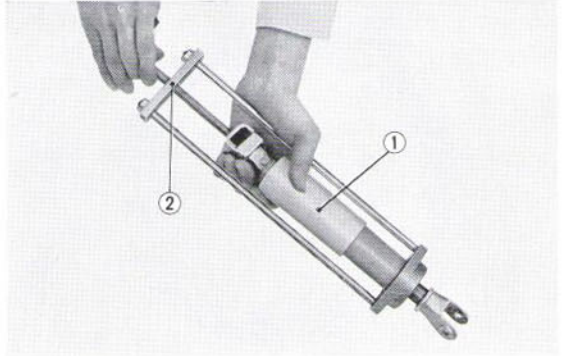
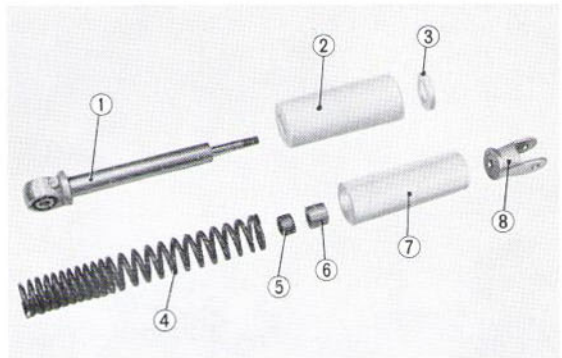

Fig. 4.25 ① Rear cushion assembly
Fig. 4.26
2. By using the cushion disassembly tool (Fig. 4.25), the rear cushion locking nut can be removed from the rear cushion bottom joint. Disassemble the rear cushion bottom case, rear cushion spring, rear cushion stopper rubber, and the cushion spring upper seat, the rear cushion upper case can be separated from the rear cushion damper. (Fig. 4.26)